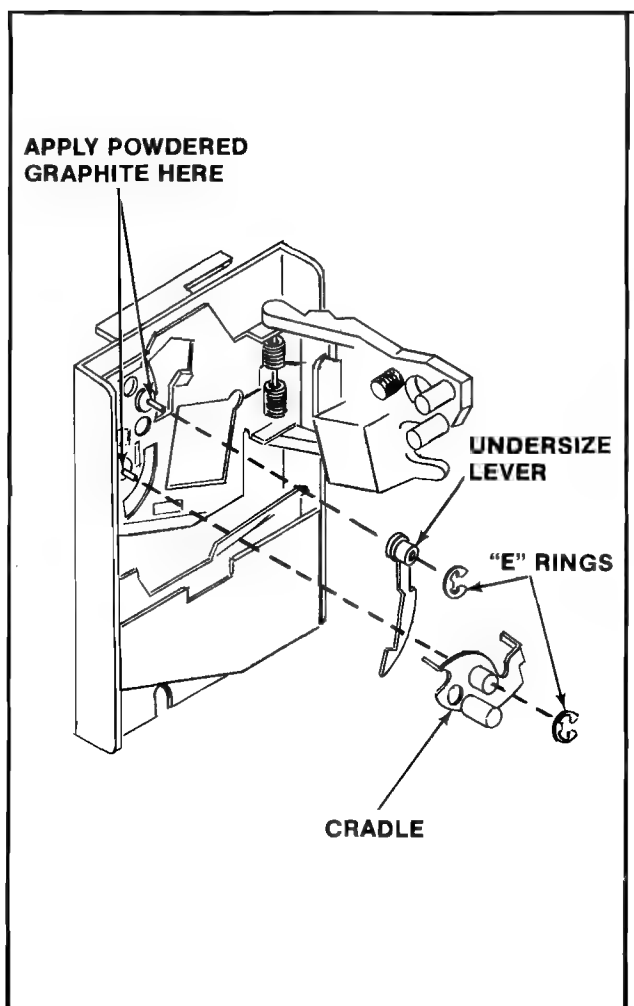

Figure 34 Lubricating the metal coin acceptor
- Use **ONLY** powdered graphite and put it **ONLY** on the moving parts of the coin acceptor. These parts are called out in Figure 34.